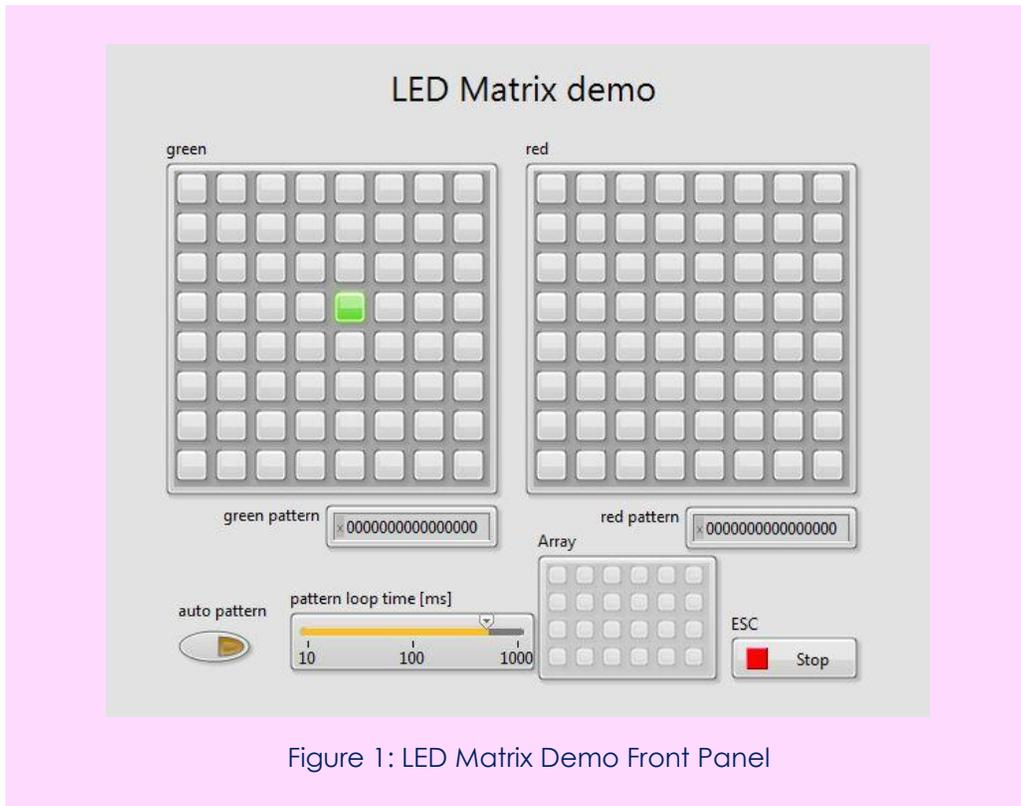

Figure 1: LED Matrix Demo Front Panel
Step 2: Open the LED Matrix demo folder and the LED Matrix project (LED Matrix demo.lvproj). Open the VI titled "Main.vi" (Figure 1). On the front panel are two control arrays, which should look like the LED matrix hardware component (Figure 1). The right matrix corresponds to the green LED's and the left corresponds to the red LED's. There is also a slider control to set the loop time, allowing the user to adjust how long the colors are pulsed onto the matrix.